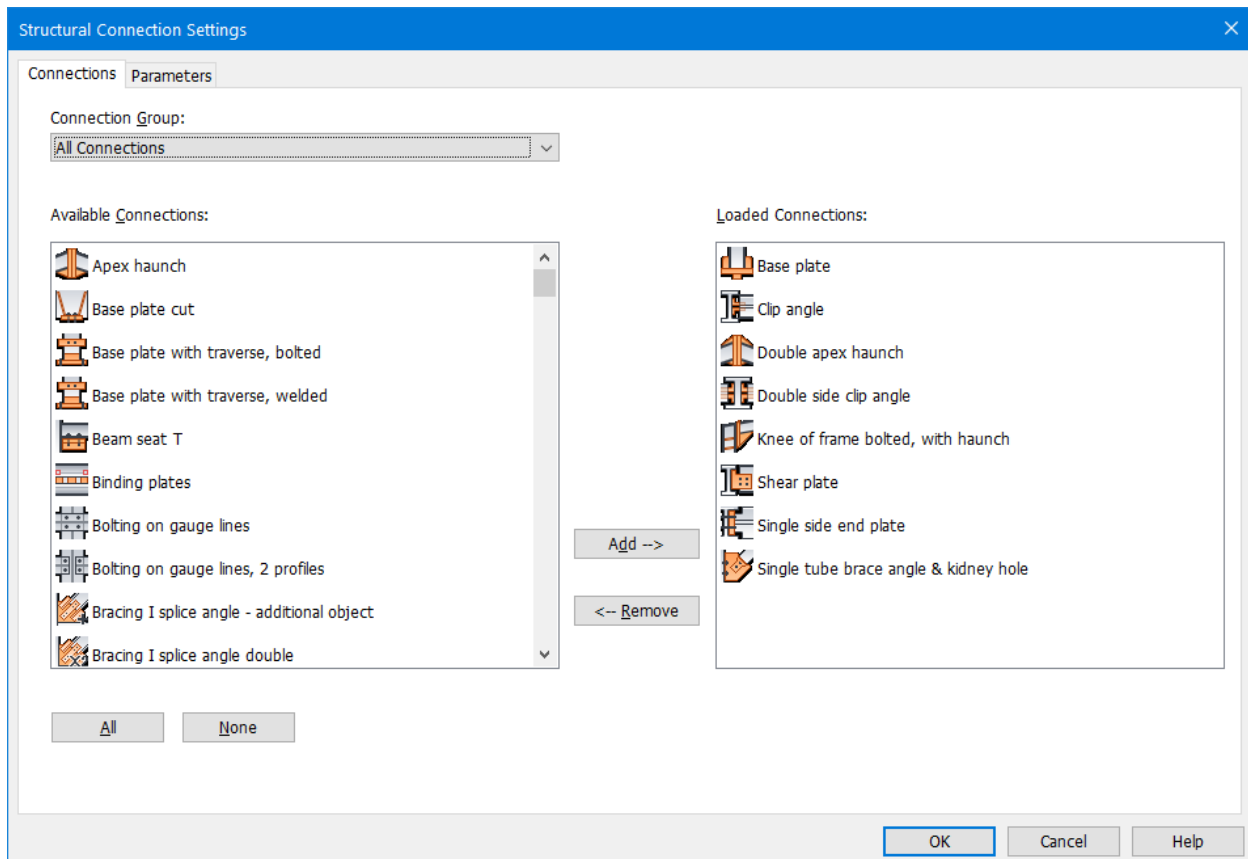

FIGURE 30: THE CONNECTION LOADED FOR USE
3. In the **Available Connections** area of the dialog box, double-click on the connections that you want to add to the structural model; the connections will be displayed in the **Loaded Connections** area, as shown in Figure 30.
After you have selected the connections you want to use in the dialog box shown in Figure 30 above, you are ready to insert these connections. The following is the procedure for doing this.